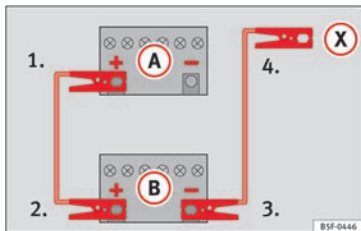

Fig. 129 Diagram of connections for vehicles without Start Stop system
2. Connect one end of the *red* jump lead to the positive (+) terminal of the vehicle with the flat battery (A) » » Fig. 129.
3. Connect the other end of the *red* jump lead to the positive terminal (+) in the vehicle providing assistance (B).
4. **For vehicles without Start-Stop system:** connect one end of the *black* jump lead to the negative terminal (-) of the vehicle providing the current (B) » » Fig. 129.